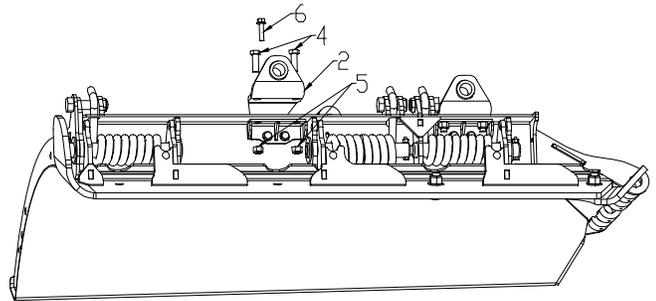

Figure 3. Plow Shoe Mounting Bracket Assembly G10828
**Note:** It may be necessary to release the tension from the inner torsion spring to assemble inner Bolt-On Shoe Bracket Gusset (1).
- 5) Using two 1/2"-13 X 1-1/2" Hex Head Cap Screws (4) and two 1/2"-13 Top Lock Nuts (5), attach Bolt-On Shoe Bracket (2) to the backside of Driver Side outer mounting location. See Figure 3.
- 6) Using the Shoe Bracket as a guide, drill a 5/16" hole in the back of the blade. Insert a 3/8"-16 X 1-1/2" Self-Tapping Hex Head Cap Screw (6) and tighten.